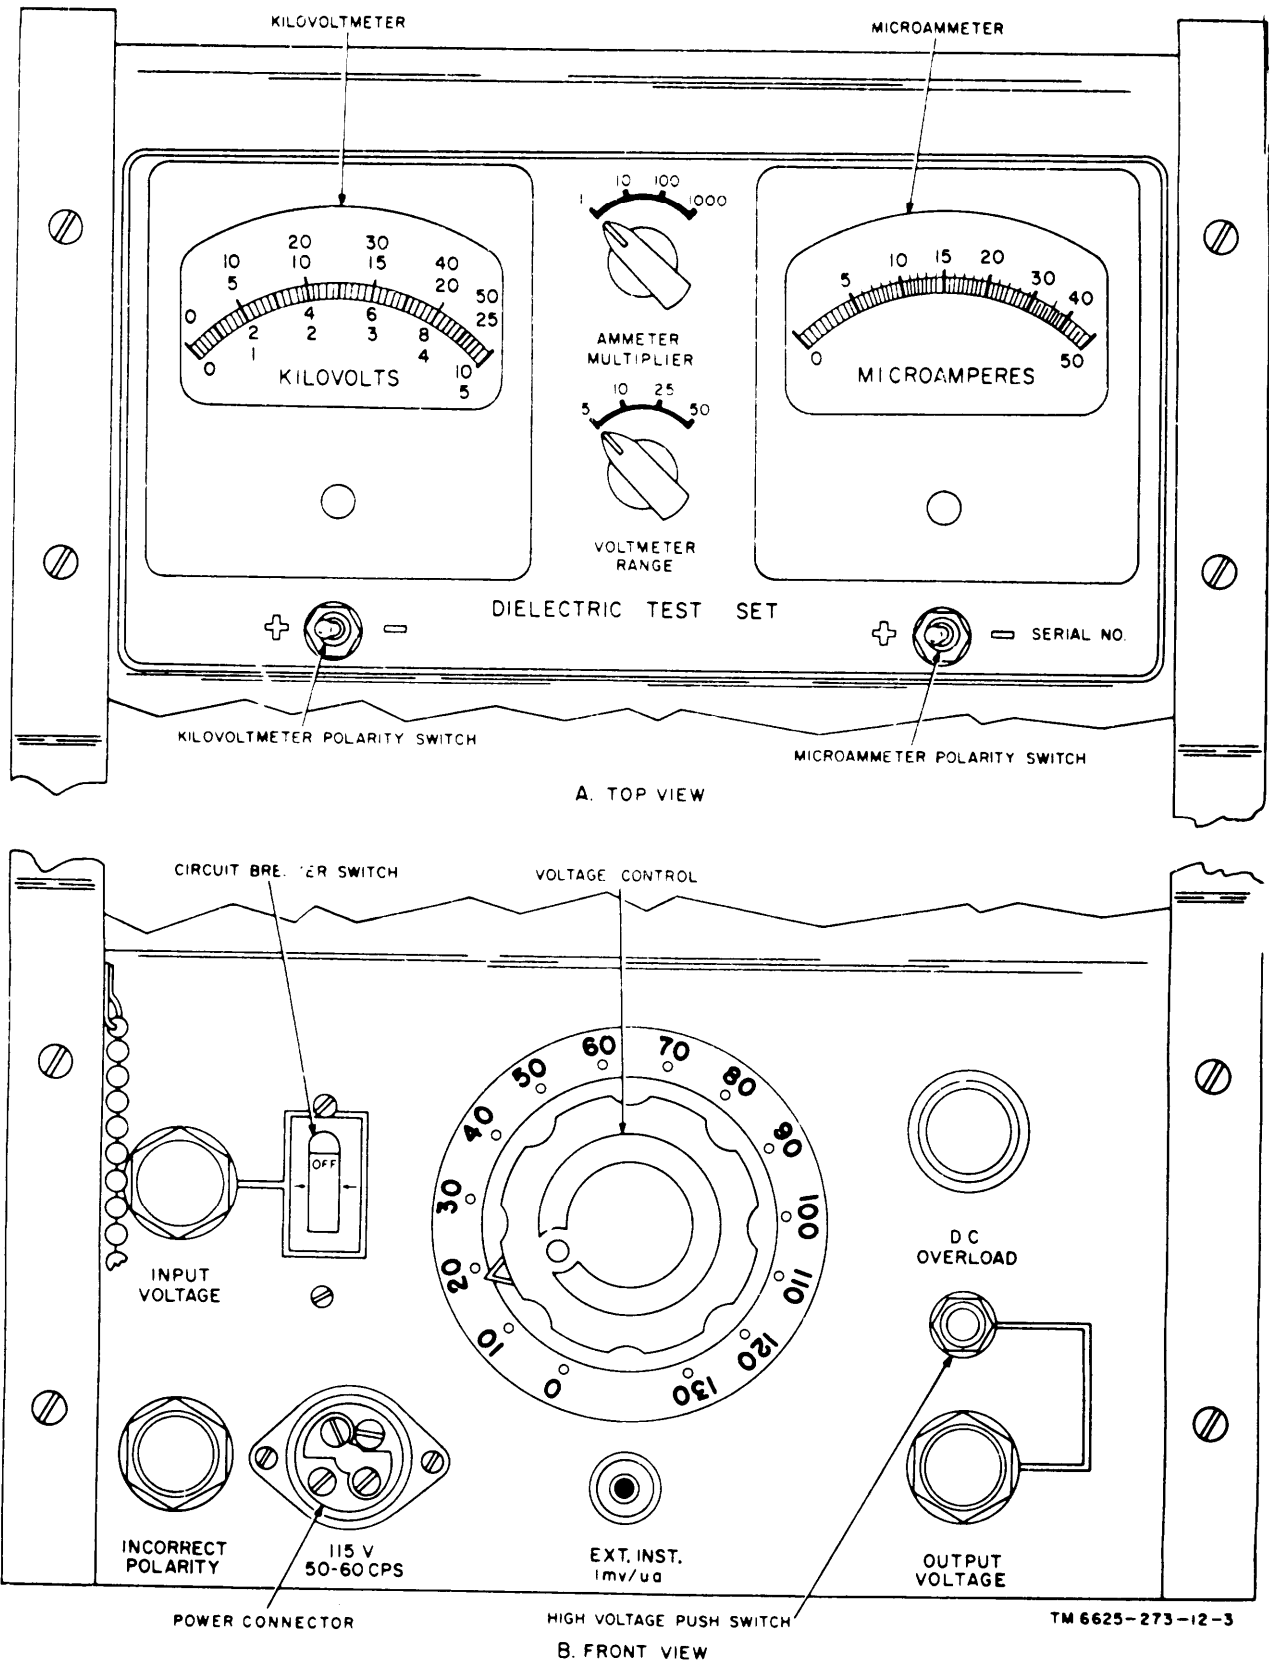
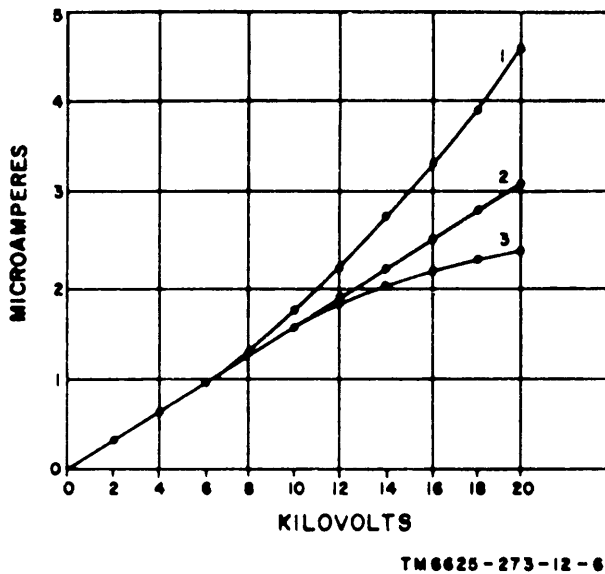

Figure 3. Insulation breakdown test set TS-928/G, control unit, controls and indicators.
Figure 6. Sample step-voltage test chart.
##### 12. Controls, Indicators, Terminals, and Connector (figs. 3 and 4)
- a. Place the circuit breaker switch (fig. 3) in the OFF position.
j. Set the kilovoltmeter polarity switch (fig. 3) and the microammeter polarity switch to the polarity that matches the output voltage (e above).
*Note.* If the INCORRECT POLARITY (white) indicator (fig. 3) lights, reverse the position of the male plug of the input cable at the power source.
k. Place the circuit breaker switch (fig. 3) in
o. Check the microammeter (fig. 3) for an indication of leakage current. For other than small amounts of charging current, at changes in voltage, the microammeter should show no leakage current.
a. Turn the AMMETER MULTIPLIER switch (fig. 3) to the highest range position needed for the test (par. 13e).
- (2) Connect the terminal strap to the output terminal which is connected to the guard strap (par. 13e).
c. Lower the high-voltage caution plate (fig. 3) against the output terminal.
d. Turn the voltage control (fig. 3) clockwise until the desired output voltage (a above) is applied to the test specimen.
During the step-voltage test, a series of predetermined voltages are applied to the test specimen. Each voltage is held constant for a period of time (step) and then the next higher voltage is applied. At the end of each step, before the next higher voltage is applied, the current value is recorded (on a chart (fig. 6), if available). Perform the step-voltage test as follows:
e. Turn the voltage control (fig. 3) clockwise until the first step-voltage value (b above) is applied to the test specimen. The output voltage (as indicated by the kilovoltmeter) should remain at this value for 1 minute. At the end of the 1-minute period, record the current value indicated by the microammeter.
- (1) A sharp increase in current (line 1, fig. 6) and lighting of the DC OVERLOAD indicator (fig. 3) as the voltage is increased, indicates that the insulation is defective and the test must be stopped immediately (par. 17).
- (2) A linear increase (line 2, fig. 6) in current as the voltage is increased indicates normal insulation. A gradual decrease (line 3, fig. 6) in current as the voltage is increased (caused by the capacitance of the test specimen) also indicates normal insulation.
a. Turn the voltage control (fig. 3) to the 0 position.
- (3) Inspect the controls and switches (fig. 3) for binding or faulty operation.
- (4) Check for normal operation (par. 23c). Be alert for any unusual performance or condition.
- (4) Inspect the meters (fig. 3) for damaged glass and cases.
- (5) Inspect accessible wiring for cuts, breaks, and loose or unsoldered connections.
- (6) Check all accessible components for insecure mounting.
- (7) Inspect the high-voltage caution plate and the metal shorting bars for cracks, breaks, or damage.